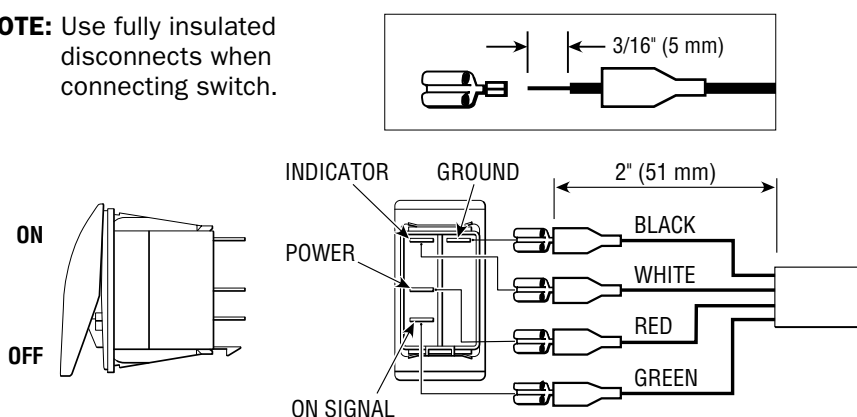

Figure 2-36. ON/OFF Rocker Switch Connections.
2. If needed cut a hole as per the template below to mount the switch. Make sure you have clearance behind the dash for the switch wires and connections. Install the switch as per the diagram. (Figure 2-36.)
6. Connect the terminals to the switch as shown. (Figure 2-36.)